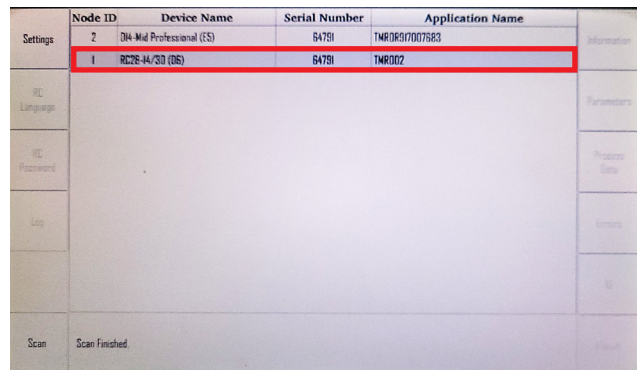

Figure 10: Select RC28
7. Once scanning is complete, rotate the selector wheel to highlight 'RC28'; see Figure 10.